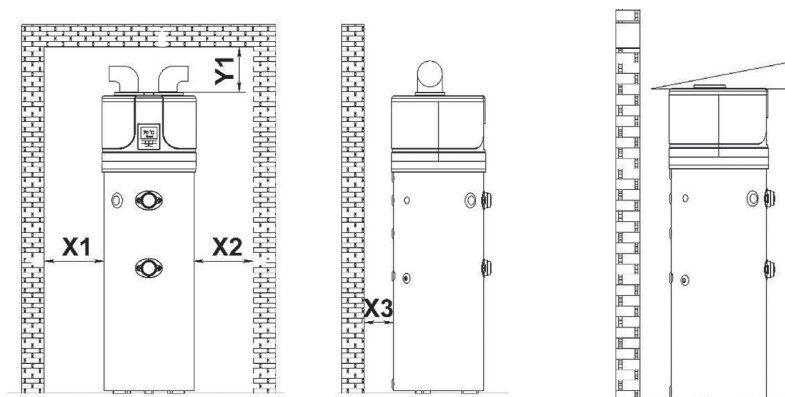

Fig 3 - Location conditions
- It's important to allow the necessary working space by referring to the dimensions show in Fig 3 below.